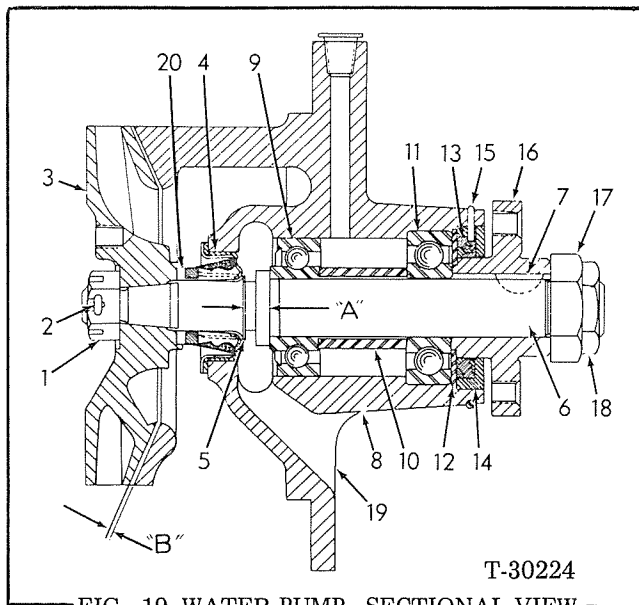

FIG. 19 WATER PUMP - SECTIONAL VIEW
- a. Install water flinger (4) on pump shaft (5) so that flanged end is located 0.3125 in (7.94 mm) from front face of shaft shoulder (refer to dimension "A" Fig. 19).
- b. Press rear ball bearing (11) onto shaft (5) making certain that shielded side of bearing is towards impeller end of shaft. Place bearing spacer (8) in position on shaft. Press bearing (7) onto shaft, making certain that shielded side of bearing is towards pulley end of shaft.
- c. Place pump body (6) in position on a press, with impeller side of body down. Start shaft (with bearings) into position to pump body. Pressing on inner race of front ball bearing, press shaft (with bearings) into position in pump body. While pressing shaft into pump body, hand pack area between bearings half full with clean ball and roller bearing lubricant.
- d. Install retaining washer (10) in pump body. Insert a new sealing washer (11) in sealing washer retainer (12) and turn retainer into pump body until hole in the retainer is aligned with hole in body for the retainer lockwire. Install retainer lockwire (13).
- e. Install seal assembly (3) in position on impeller end of pump shaft and into position in the pump body, using care to prevent damage to seal assembly. Make certain carbon washer surface is wiped clean with an absorbent paper on lint-free cloth. If thorough cleaning cannot be accomplished this way, use a non-toxic, non-flammable cleaning solution and then wipe clean DO NOT APPLY OIL FOR GREASE TO THE CARBON WASHER SURFACE.
Place impeller (2) in position on pump shaft and start impeller retaining nut. Tighten retaining nut to a torque of 3-36 lb-ft (4.1-5.0 kg/m). This must press impeller onto shaft so that a clearance of .018 - .049 in (0.46-1.24 mm) is provided between impeller and rear face of body (refer to dimension "B", Fig. 19).
Place support under threaded end of shaft and press on impeller. Face of impeller must be from .010 in (0.03 mm) above to flush with end of shaft. This should maintain the specified clearance of .015 - .072 in (0.38-1.83 mm) between impeller and rear face of body (refer to dimension "B", Fig. 19). If a new impeller is used, and if it has a protective wax-like coating covering ceramic sealing ring, the coating must be removed before assembling impeller to shaft.